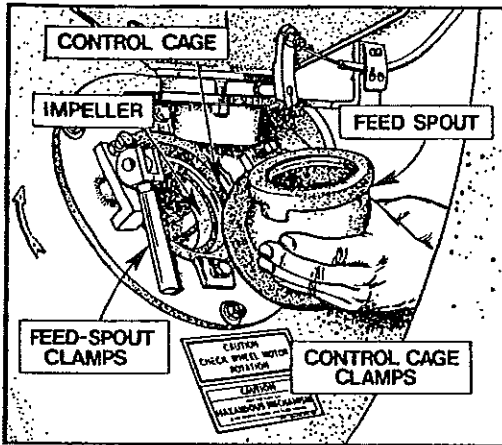

Figure 1. Remove Feed Spout.
- a. Loosen the two feed spout clamps and remove feed spout (FIG. 1).